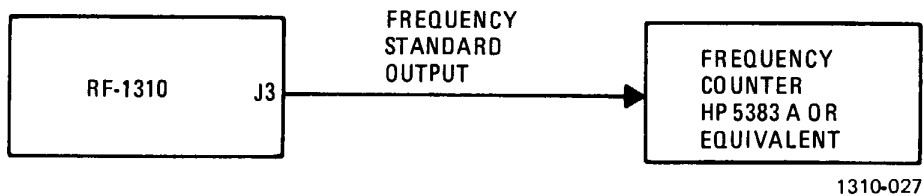

Figure 4. A21 Frequency Standard Adjustment
- a. Connect equipment as shown in figure 4. Set INT/EXT standard switch to the INT position.